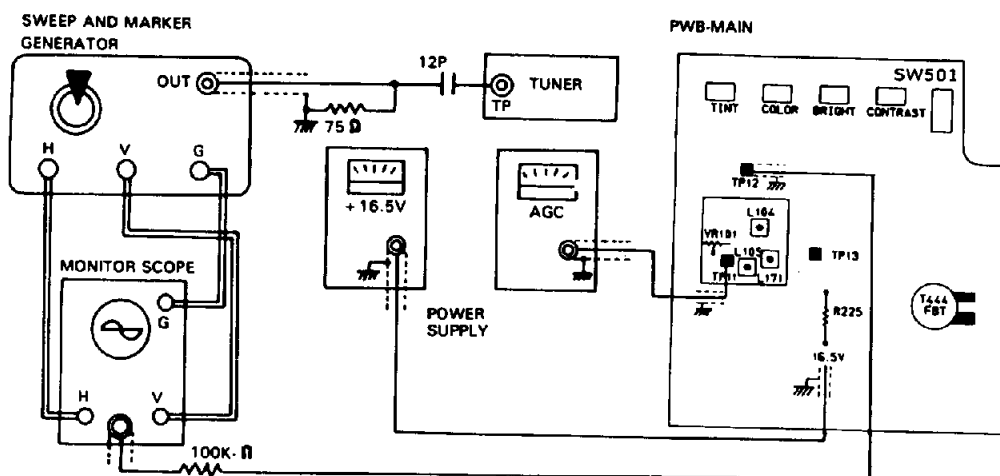

Figure 20. Picture I-F Sweep Alignment
Refer to figure 20 for alignment points and test equipment connections.
1. Connect output of sweep/marker generator to test point (TP) on the tuner. (See Fig. 20)